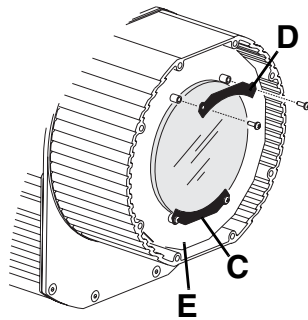

**Figure 1: Front cover removal (standard front cover shown)**
See Figure 1. Before installing any lens kit, remove the front cover (A) with its seal (B). Then follow the instructions below, depending on which model Exterior 200 you have and which lens kit you are installing.
1. See Figure 1. Check the condition of the front cover seal **B**. If it is not in perfect condition, order a replacement from Martin, requesting P/N 20600070. Check that all mating surfaces are dry and perfectly clean. Do not add any form of gasket compound or sealant.